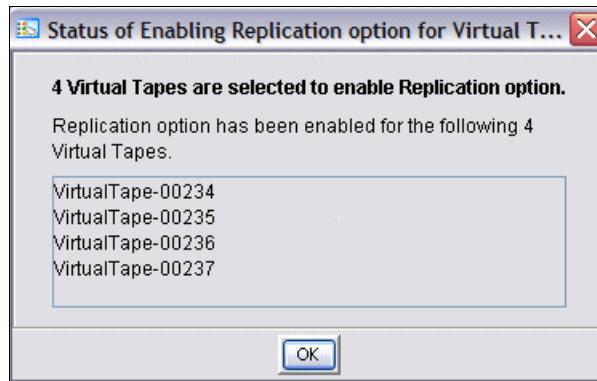

Figure 7-17 Replication setup completion
9. The replication wizard completes with the window as shown in Figure 7-17. Click **OK**.